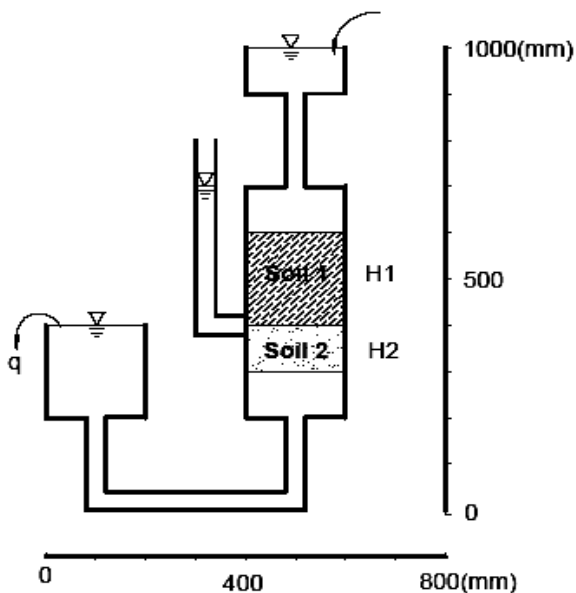

Figure 1.
1. If the flow out is $200 \text{ mm}^3/\text{sec}$ in figure 1, find K_1 and K_2